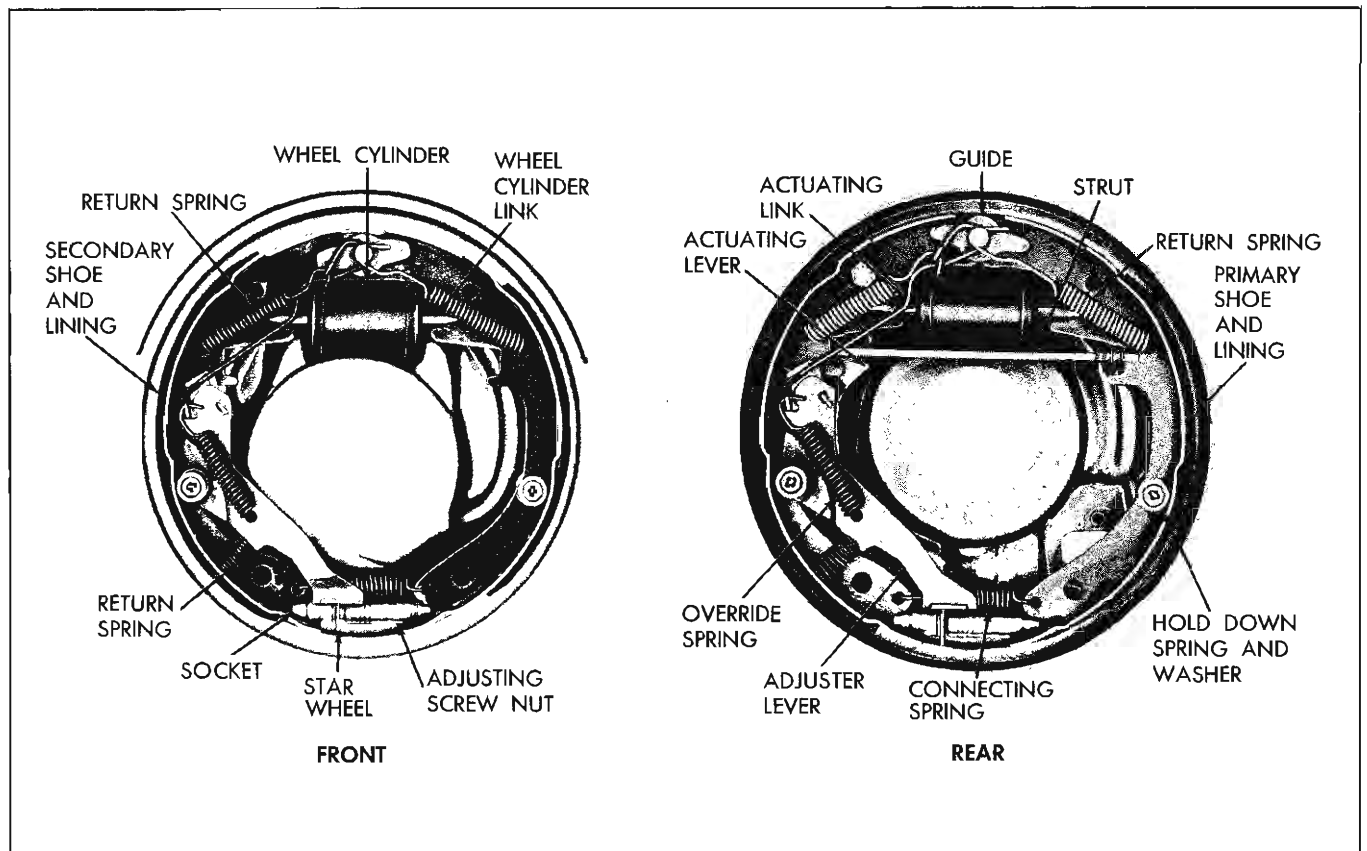

Fig. 5-3 Front and Rear Self-Adjusting Brake Assemblies
**BRAKE MECHANISM (Fig. 5-3)**